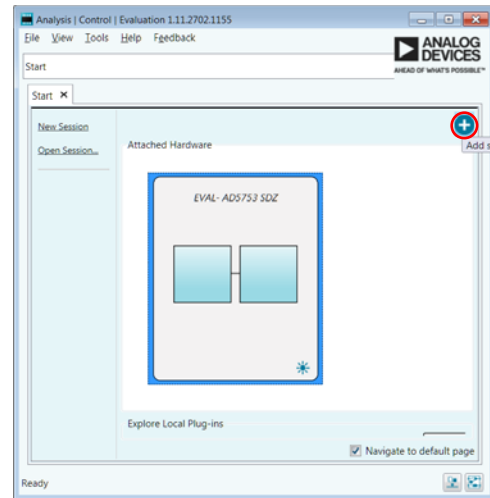
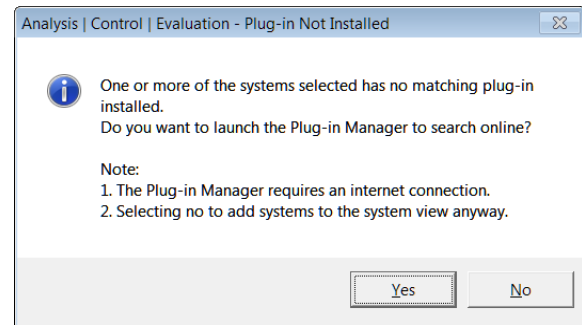
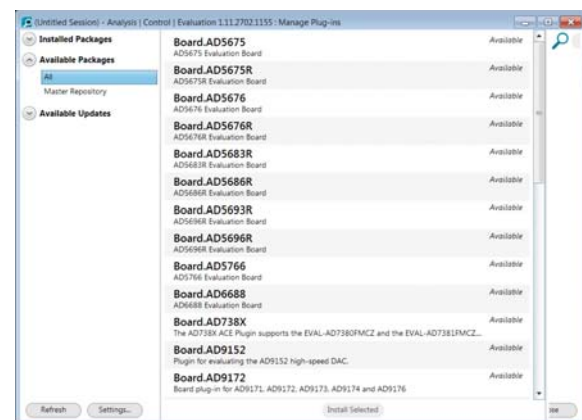
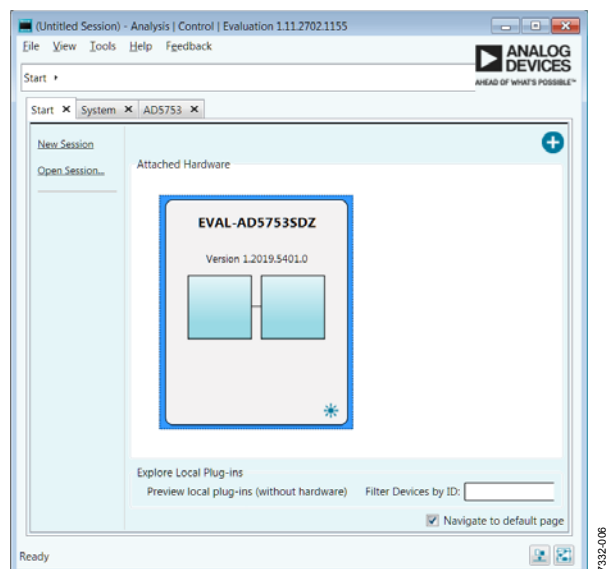

Figure 3. EVAL-AD5753SDZ Plugin Not Installed
Figure 4. Installing the Plugin Pop-Up Window
Figure 5. Plugin Manager Window
Figure 6. Attached Hardware Section with Connected EVAL-AD5753SDZ
5. The first time the EVAL-AD5753SDZ is set up, the plugin may need to be installed. If the plugin appears as shown in Figure 6, then go to Step 7. If the plugin appears as shown in Figure 3, click on the button circled in red to open the pop-up window shown in Figure 4, then click **Yes**.
6. A new window (see Figure 5) opens. Select the **Board.AD5753** plugin and click the **Install Selected** button. The installed EVAL-AD5753SDZ plugin displays as shown in Figure 6.